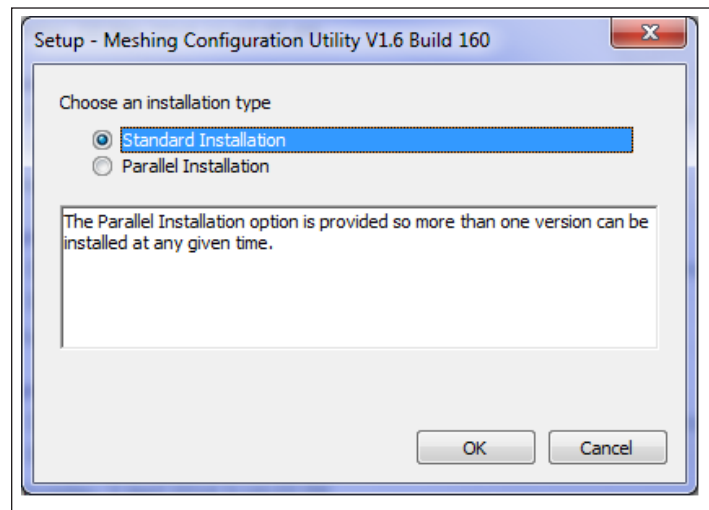

Figure 17.
- Selecting “Standard Installation” (see **Figure 17**) replaces any existing installation of CConfig with the version you are installing. Select “Parallel Installation” if you want to keep a version of CConfig that you have installed previously in addition to the new version.